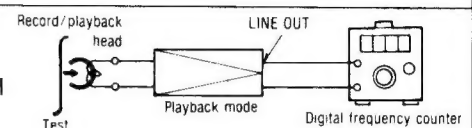

Fig. 7
1. Test equipment connection is shown in fig. 7.